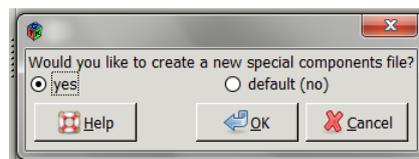

Figure 5
Step 5: A second pop-up window will then appear asking if you wish to create a special component file, click >yes (figure 5)